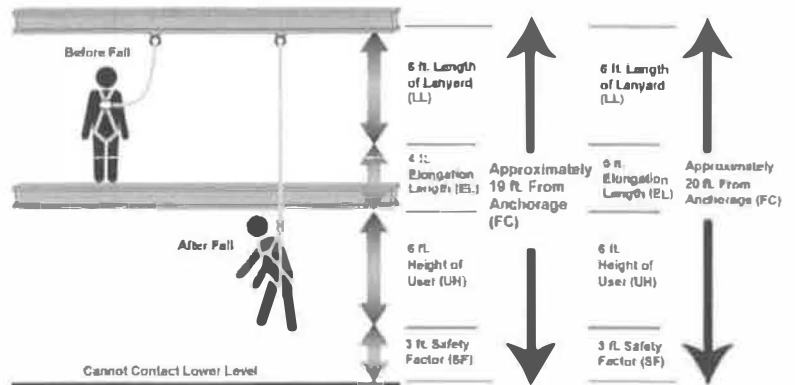

Figure 1
- ◆ No fall protection system can guarantee that you will not sustain injuries should a fall occur. Therefore, BuckYards should be kept as short as possible to minimize free fall distance. OSHA requires that maximum length of energy absorbing lanyards provide for a fall of no greater than six (6) feet (1.8 m), allow no contact with any lower level and unit elongation not exceed 42" (1.07m).
- ◆ When using a standard BuckYard, keep anchor point above rear fall arrest attachment. If climbing above anchor point, attach to a new anchor point higher up. If anchor point above the fall arrest attachment device is not available, BuckYard positioning must be such that free fall will be limited to a maximum of six (6') feet (1.8 m) or the specified overall length of the BuckYard, whichever is less and such that there will be no contact with a lower level. If anchor point is below fall arrest attachment a BuckYard with product number suffixed with X12 be used. See Fig. 1 for calculating fall distance / clearance for both standard and X12 BuckYards.